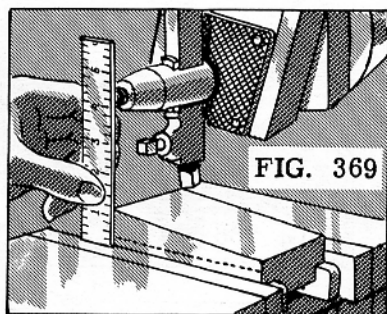

FIG. 369
3. Measure with a scale (Fig. 369) the material to be removed.